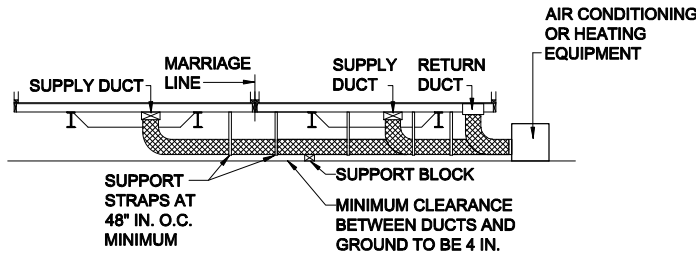

Figure 71. Ducts connecting exterior heating and/or cooling equipment to the home
2. **Install ducts.** Install the appropriate supply and return ducts (not provided) between the remote unit and the home (**Figure 71**), making connections according to the instructions for crossover ducts in **Connect Crossovers** (p. 61).